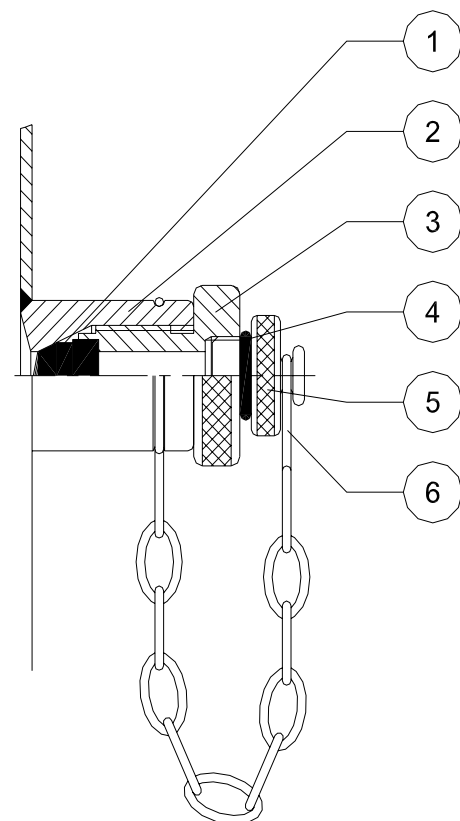

Fig. 16
- 1 If the O-ring (pos.4) has to be replaced, unscrew the closing cap (pos.5). Replace the O-ring.
- 2 To replace the rubber plug (pos.1), unscrew the press screw (pos. 3) from the holder and replace the rubber plug. Put back the press screw and tighten firmly. (Fig. 16)